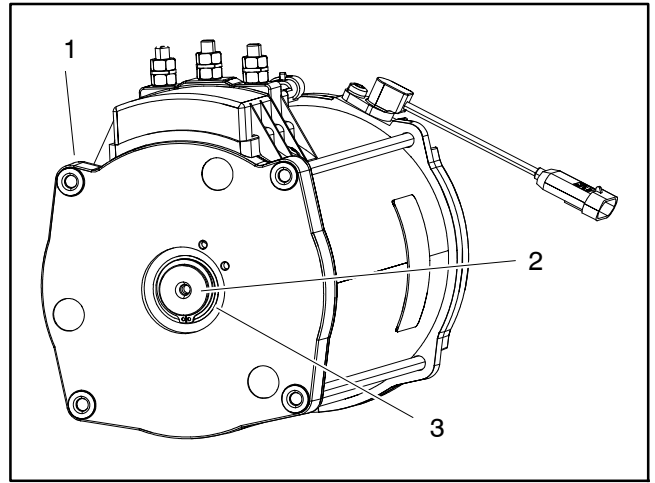
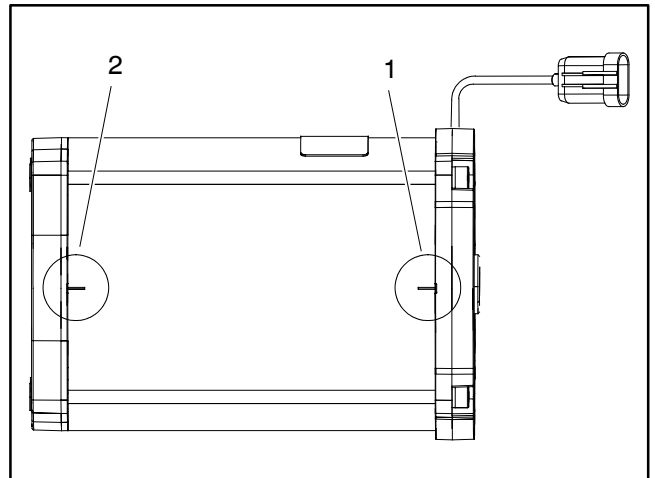
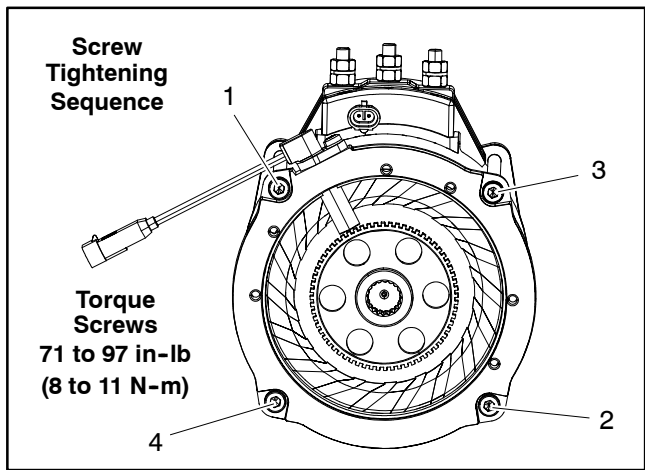

Figure 48
Figure 49
Figure 51
2. Remove the retaining ring and wave washer that secure the armature assembly in the rear end bracket bearing (Fig. 48).
4. Remove connection plate assembly (item 12) from stator:
- A. Remove three (3) lower jam nuts from stator terminal screws.
- B. Remove two (2) torx screws that secure connection plate assembly to stator.
5. For assembly purposes, note locations of drainage slots in drive and rear end brackets and the aligning position slots in the stator assembly (Fig. 49).
6. Remove four (4) socket head screws and lock washers that secure drive and rear end brackets to stator assembly. Remove end brackets from stator.
3. Position drive and rear end brackets to stator assembly using notes made during disassembly to properly align drainage slots in brackets and stator (Fig. 49).
4. Secure drive and rear end brackets to stator assembly with four (4) socket head screws and lock washers. Tighten screws in two (2) stages using the sequence shown in Figure 51. Final torque on screws should be from **71 to 97 in-lb (8 to 11 N-m)**.
5. Install connection plate assembly (item 12) to stator:
A. Place connection plate assembly onto stator so that three (3) terminal screws fit through plate.
B. Secure connection plate assembly to stator with two (2) torx screws. Torque screws from **25 to 33 in-lb (2.8 to 3.8 N-m)**.
C. Install three (3) lower jam nuts onto stator terminal screws. Torque nuts from **72 to 88 in-lb (8 to 9 N-m)**.
7. Install wave washer (item 5) and retaining ring (item 6) to secure the armature assembly in the rear end bracket bearing (Fig. 48). Make sure that retaining ring is fully seated into groove in armature shaft.